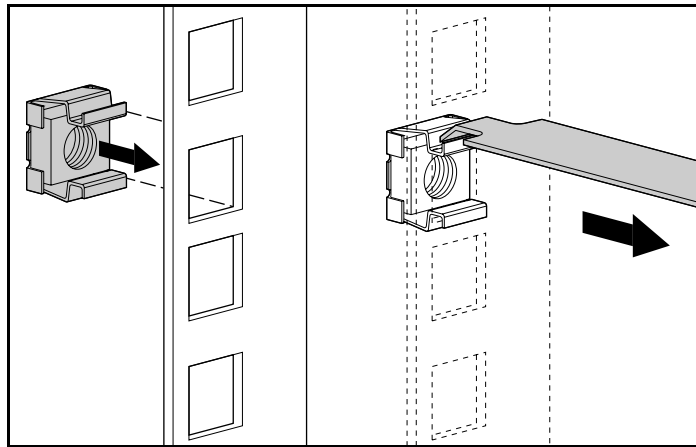

Figure 2-6. Inserting cage nuts
1. Position the cage nut on the inside of the rail as shown in Figure 2-6.